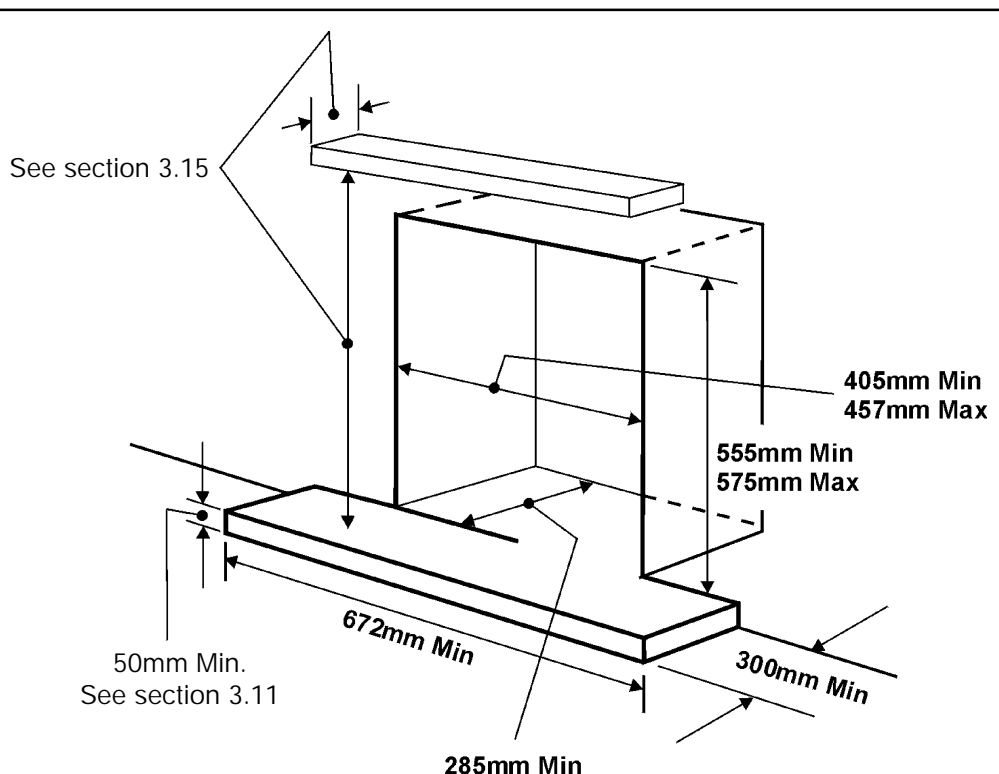

Figure 1. Hearth and fireplace opening dimensions.
3.2.1 To a fireplace complete with surround and hearth as shown in figure 1 and complying with BS1251 after removal of the fireback and sufficient material behind the fireback for a debris catchment space. The required fireplace, hearth, debris catchment area and clearance dimensions are shown in figure 1.
- It is recommended that a hearth should be installed as in figure 1.